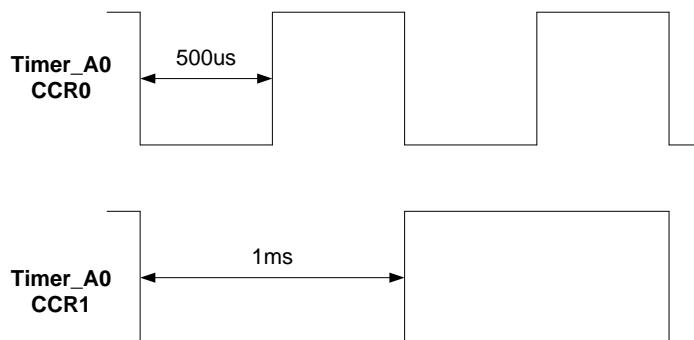

Figure 1: 2-bit Counter
10. Keeping MCLK and SMCLK at 1.5 MHz, use TimerA with CCR0 and CCR1 to create 2 synchronized square waves of different frequencies. CCR0 will create a frequency of 1 kHz while CCR1 will create a frequency of 500 Hz. Each ISR will toggle a different pin. By considering each bit as part of a 2 bit counter, with CCR0 defining the LSB and CCR1 defining the MSB, the result should appear similarly to Figure 1.